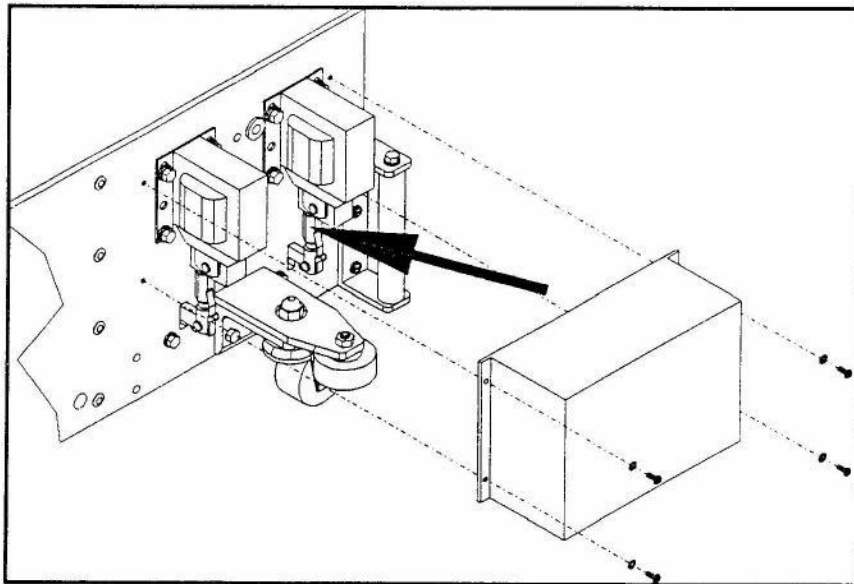

Figure 18
- The cleaner from the manifold flows into the cleaner tray. The cleaner tray must touch the lane properly to wet the lane. A pressure reading of "C" is necessary. The cleaning pad pressure should be checked while the cleaner pad is normally wet. An excessively wet pad should be wiped free of excess cleaner before it is adjusted against the lane. Pressure is adjusted by simply turning the adjusting nut on the linkage at the solenoid until the correct pressure reading has been obtained. A spring lock is part of the adjusting linkage. This will maintain the adjustment. See Figure 18. For this adjustment to be made, the GEMINI must be turned on with the drive motor fuse removed and be positioned on the lane approximately 30 feet from the foul line. The vacuum head adjustment should have already been made and the vacuum head must be against the lane with the vacuum head squeegee deflected!